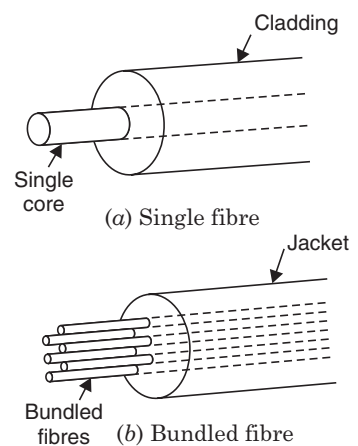

Fig. 14. Optical fibre construction.
Refer to Fig. 14.
- An optical fibre consists of a *central core* and an *outer cladding*. The material of core has higher index of refraction as compared to cladding. The optical fibres are available either as a single fibre [Fig. 14 (a)] or as several fibers bundled together [Fig. 14 (b)].